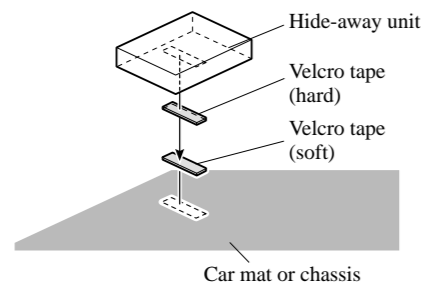

Fig. 9
- **Install the hide-away unit with the velcro tape. (Fig. 9)**